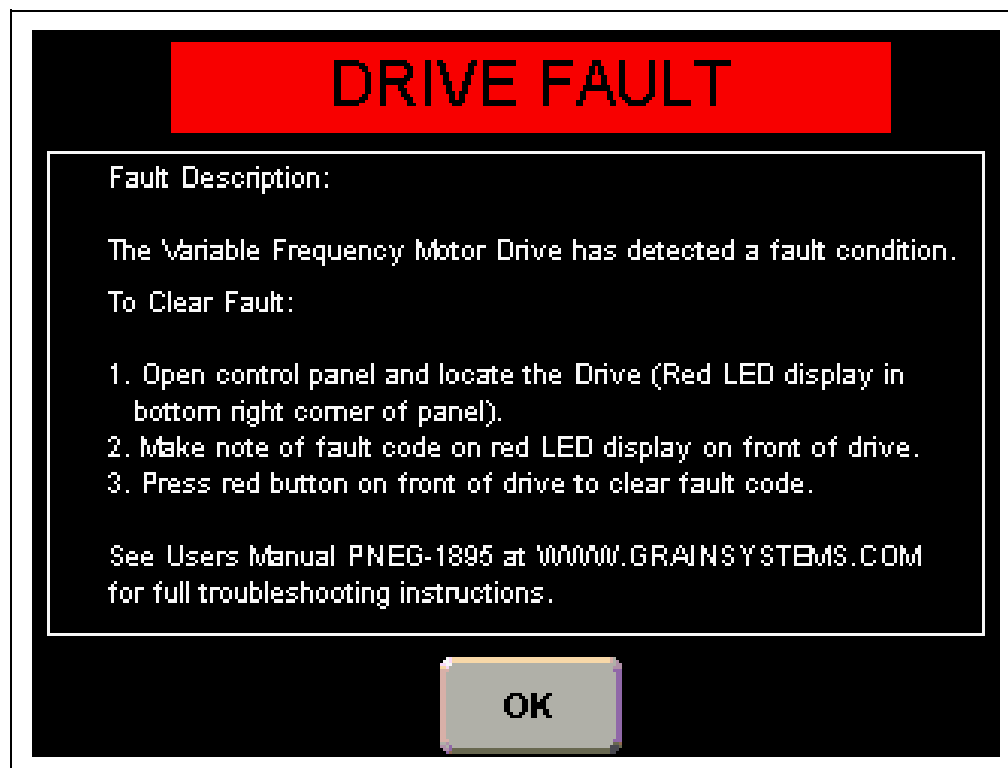

Figure 4V Drive Fault Screen
**Drive Fault:** Displays the “VFD” Fault screen which offers possible causes and solutions to faults caused by the variable frequency drive. (See Figure 4V on Page 33.)